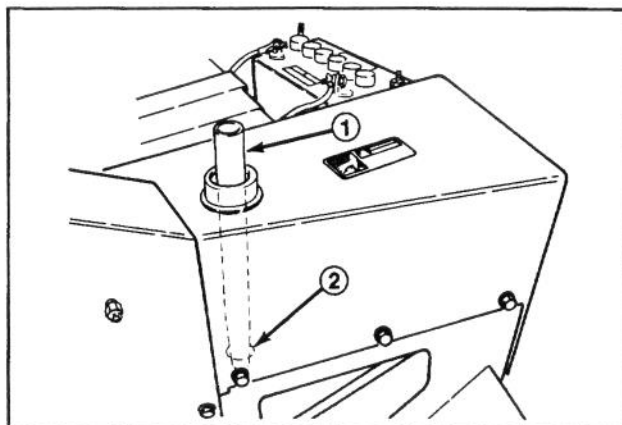

Figure 39
2. If only the filter is to be changed, remove reservoir cap and insert reservoir plug (Fig. 39), to block outlet.